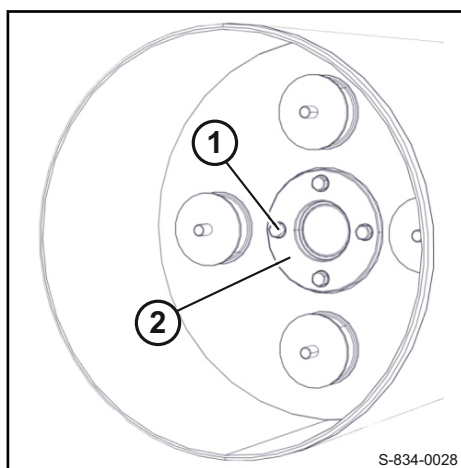

Fig. 236
Mount flange 2 ↘ Fig. 236 to the drum with the hexagon screws (1) and washers.